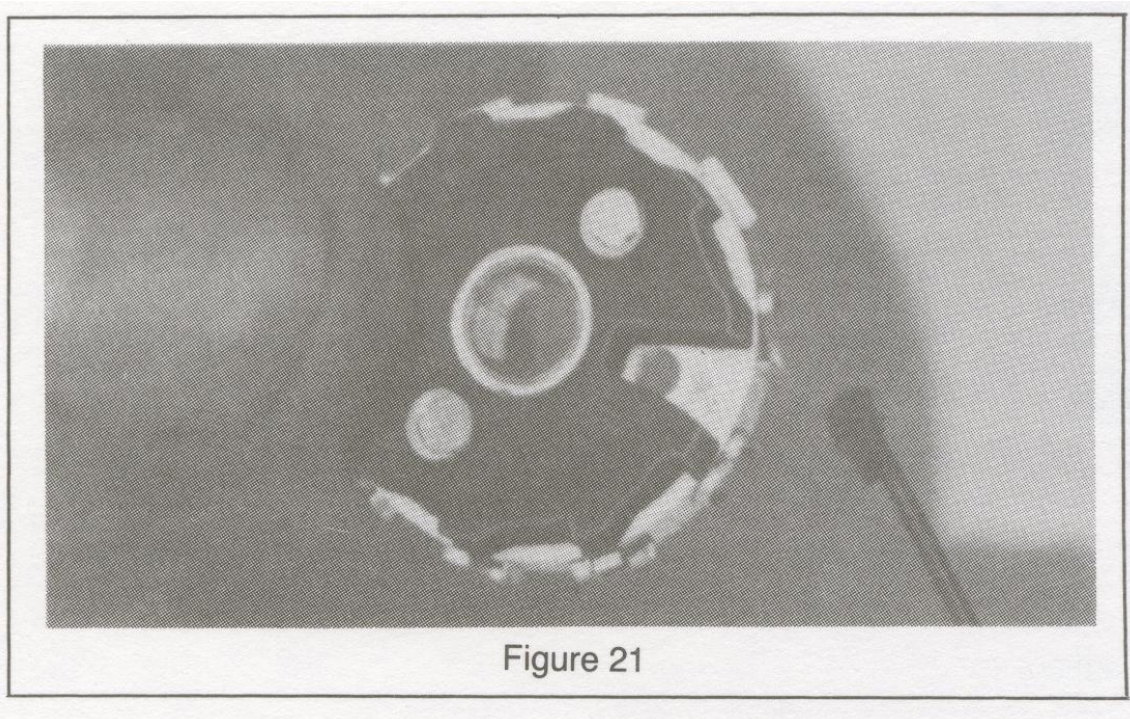

Figure 21
- Note the location of any spacers that may drop out. They should be reinstalled in the same position when installing a new wheel. Remember, a dab of Molykote G-n paste should be applied to the drop of the new unit wheel ratchet before installation (*figure 21*).